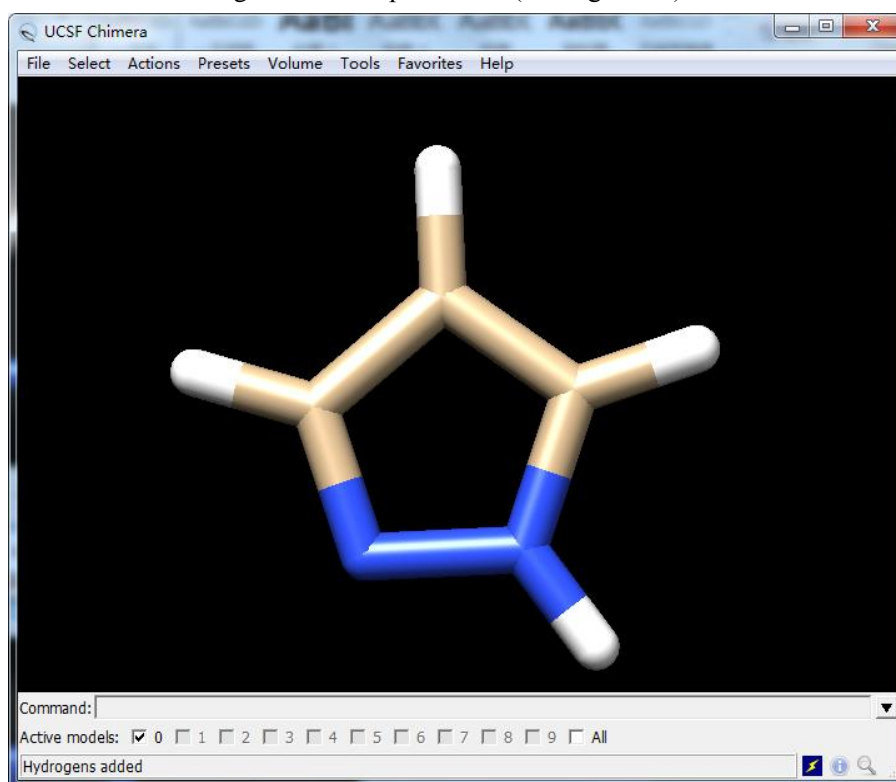

Figure 25. Adding hydrogen in the initial growth fragment.
4. To let the molecule grow in the right way, the initial fragment part should add hydrogen, so “Tools→Structure Editing→AddH” is performed (see Figure 25).